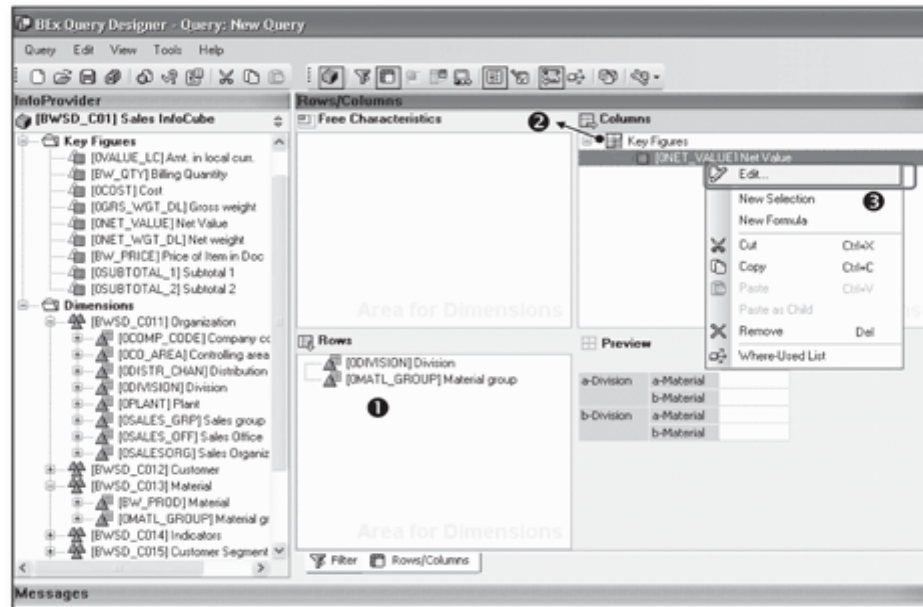

Figure 9.53 Edit Key Figure
You can restrict this key figure by applying selections to it. Double-click on the key figure, or select Edit from the context menu for the key figure (❸ of Figure 9.53). This action will open a selection screen for the key figure (Figure 9.54).